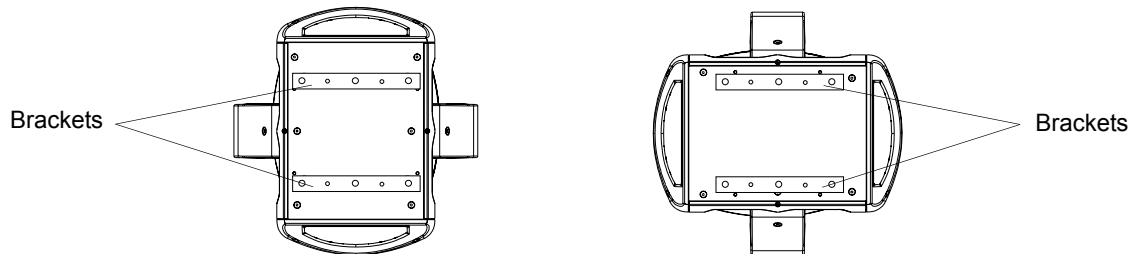
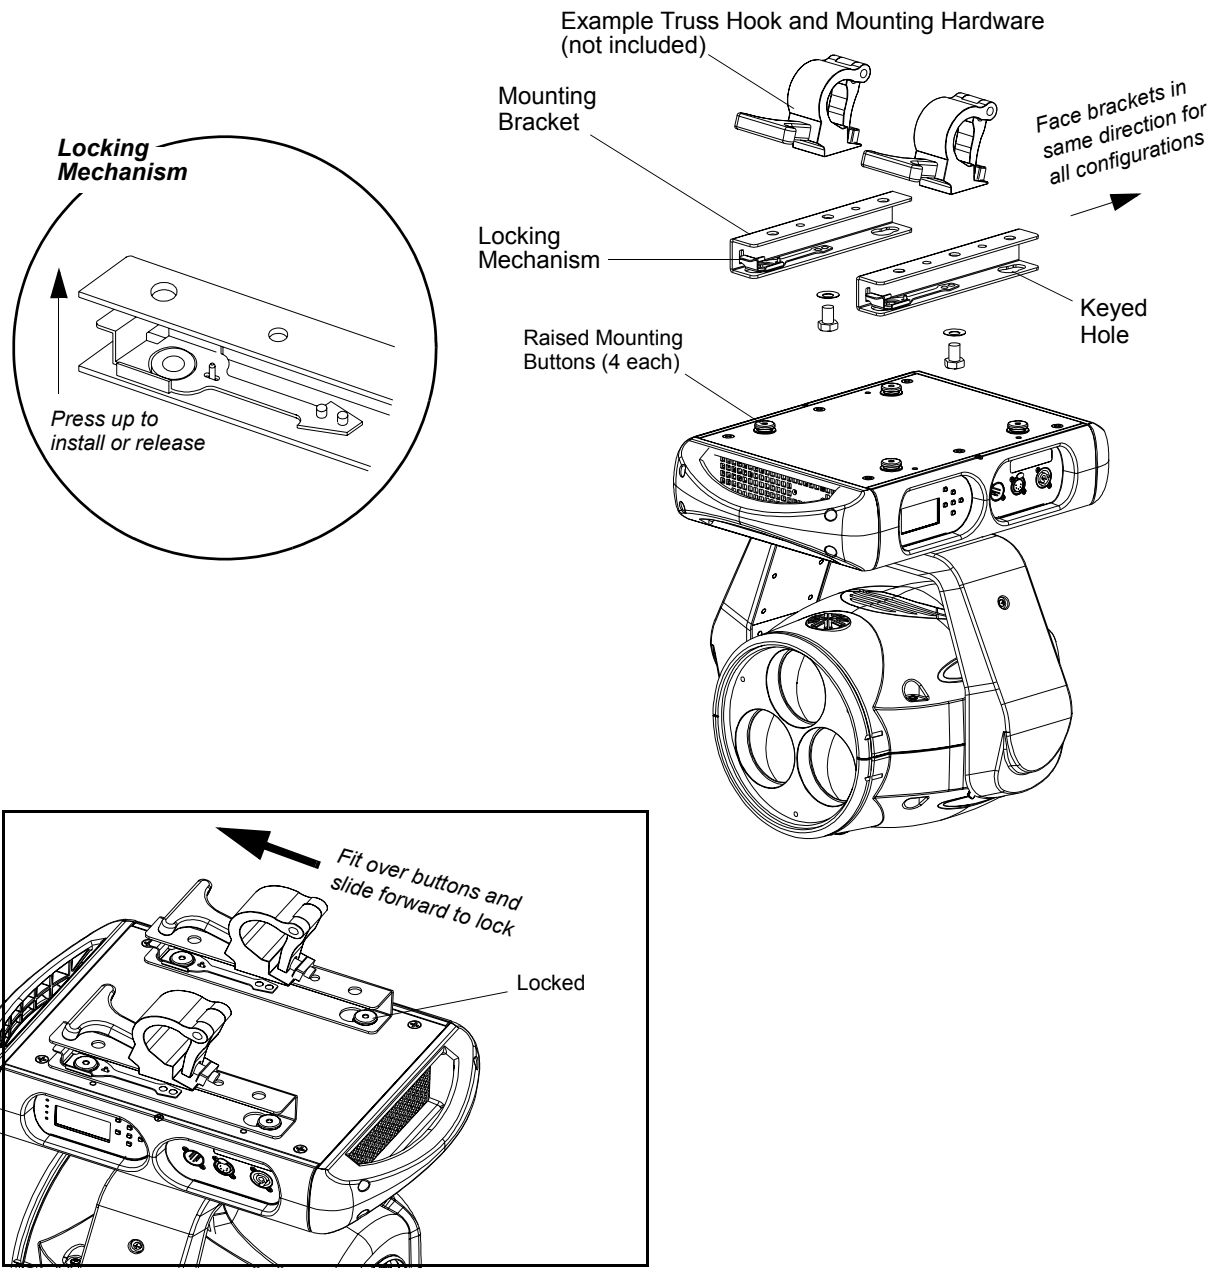

Figure 2-3: Bracket Orientation Options
Figure 2-4: Installing Brackets on Luminaire Enclosure
Step 2. Determine required configuration of bracket installation. Brackets may be installed in either orientation as shown in Figure 2-3, but both must face the same direction. Figure 2-4 shows bracket installation details.
Enclosure can be oriented in either direction. See Figure 2-3 for details.